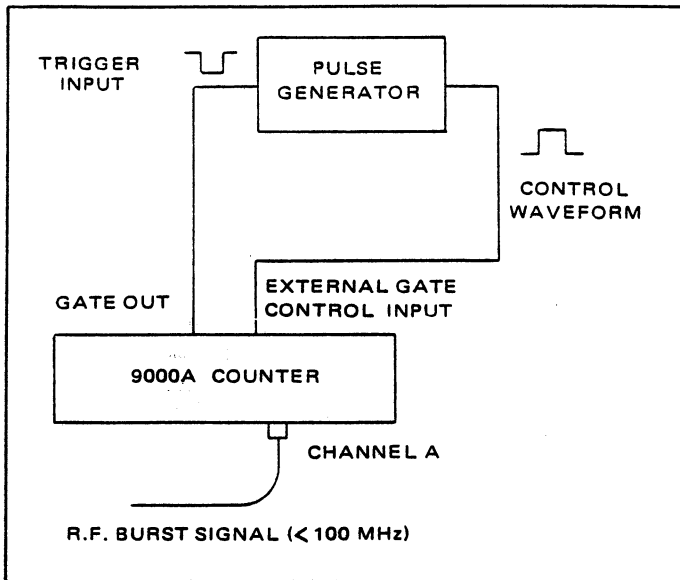

Figure 3.13 - Gate Delay Measurement Connections
3.2.11.5.3 In this case the setup shown in Figure 3.13 will make the measurement.